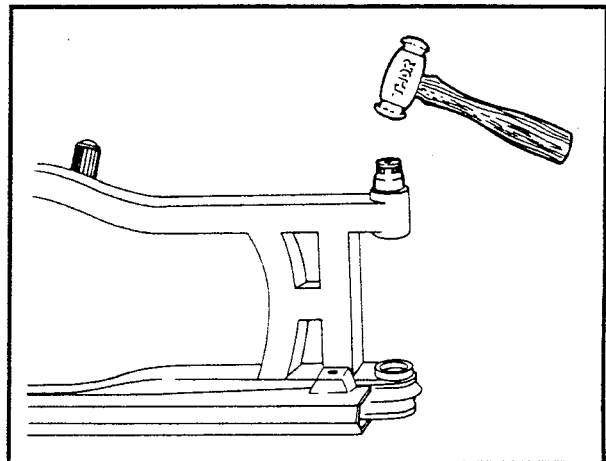

Figure 5-5. Swing Arm Bearing Removal
2. See Figure 5-5. Use a suitable drift to remove swing arm bearings.